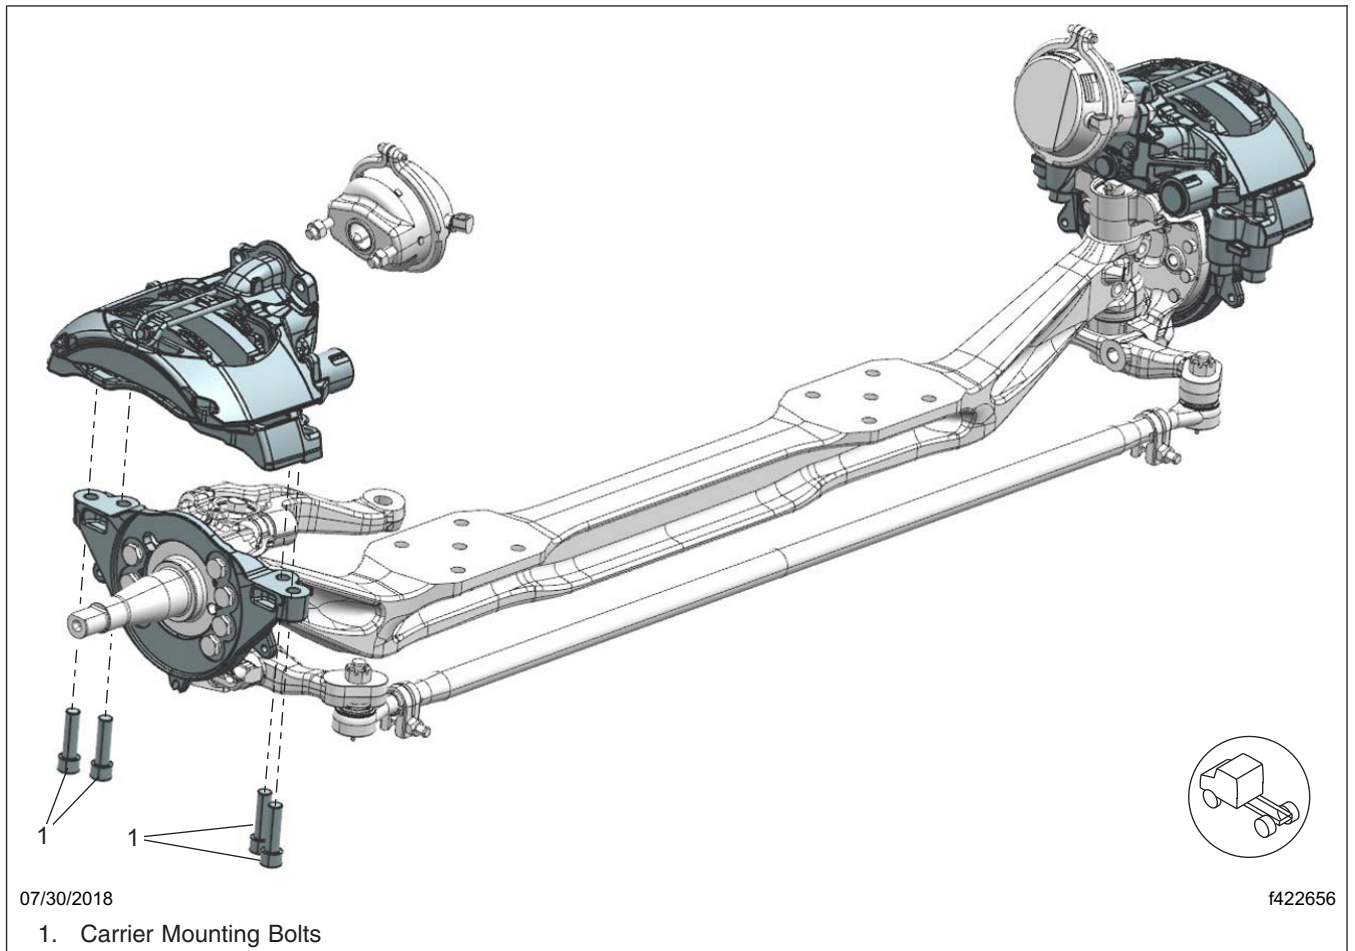
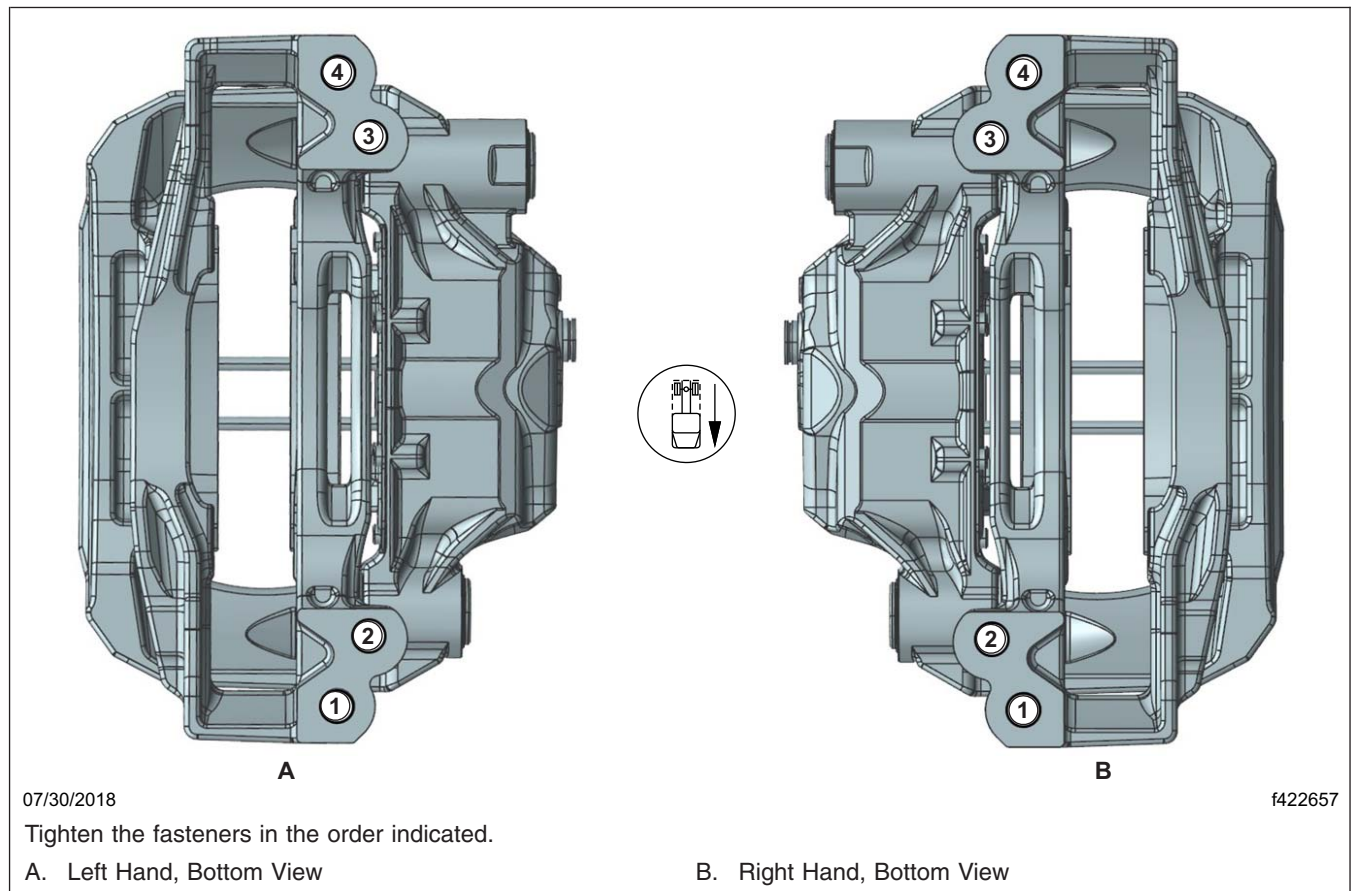

Fig. 9, Wabco Maxxus Radial Mounted Calipers
Fig. 10, Wabco Maxxus Radial Mounted Caliper Tightening Pattern
9. Align each caliper/carrier assembly with the rotor by pushing the fixed pin side of the caliper against the shelf on the torque plate, then install the caliper/carrier assembly using new caliper mounting bolts. See Fig. 9 and Fig. 10.
10. Tighten the carrier mounting bolts in two steps, using the pattern shown in **Fig. 10**.